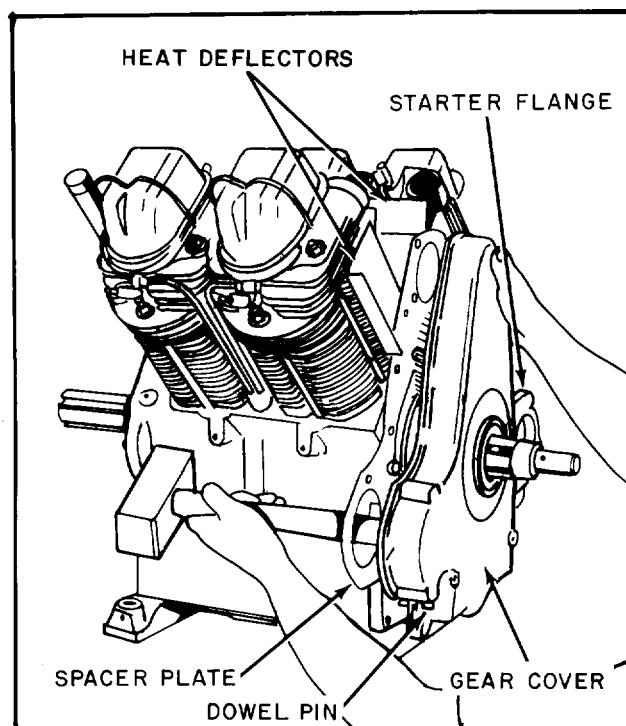

Fig. B-36
**GEAR COVER (Fig. B-36)**
alternately, from starter flange to accessory drive housing opening, and remove as illustrated in Fig. B-36. Note that dowel pins will remain in cover. Cylinder heat deflectors can now be removed.